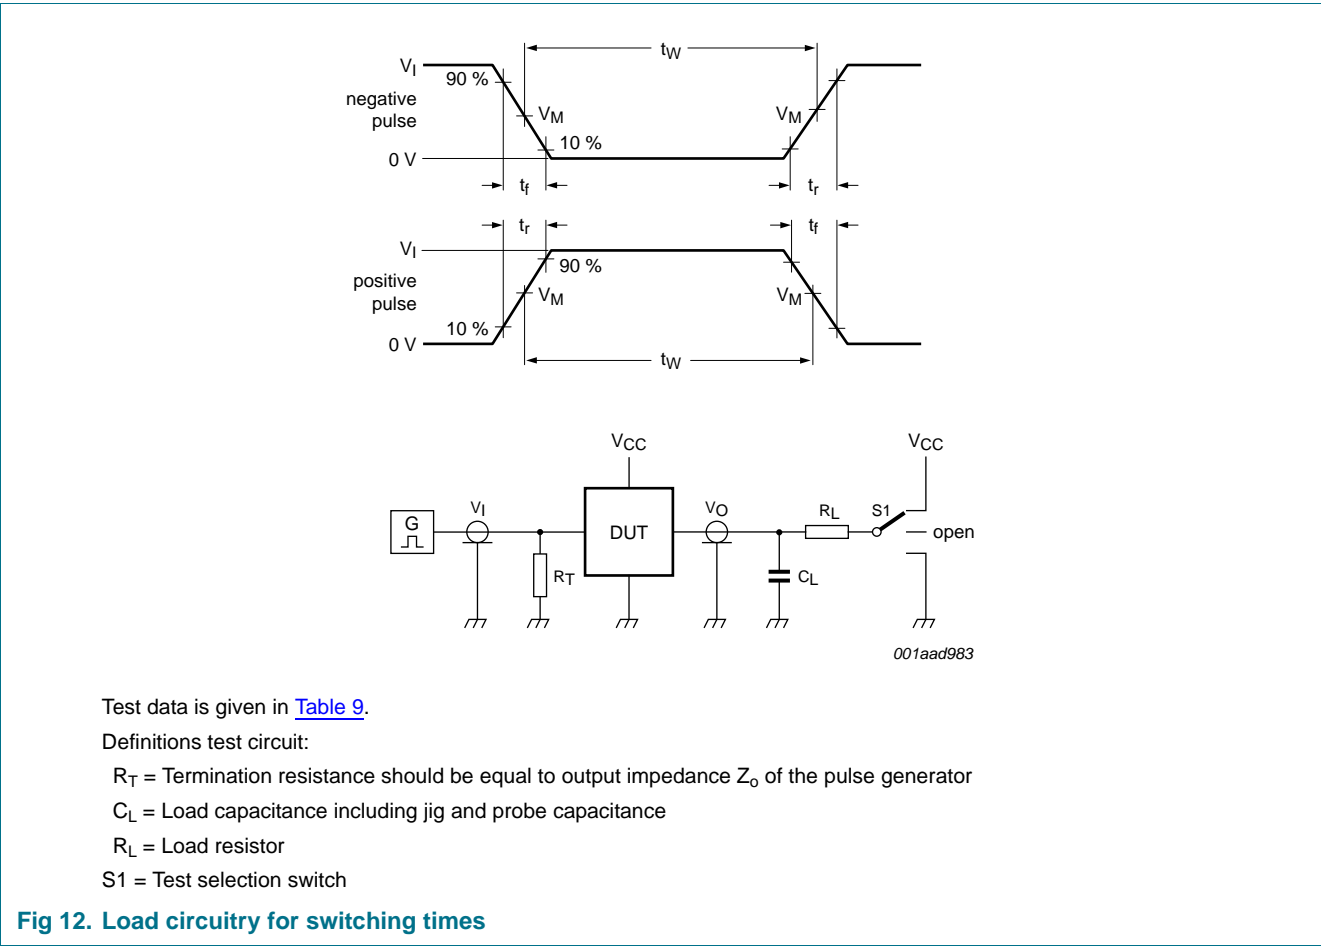

Fig 12. Load circuitry for switching times
**Table 7. Dynamic characteristics ...continued**GND = 0 V; For test circuit see Figure 12.
GND = 0 V; For test circuit see Figure 12.